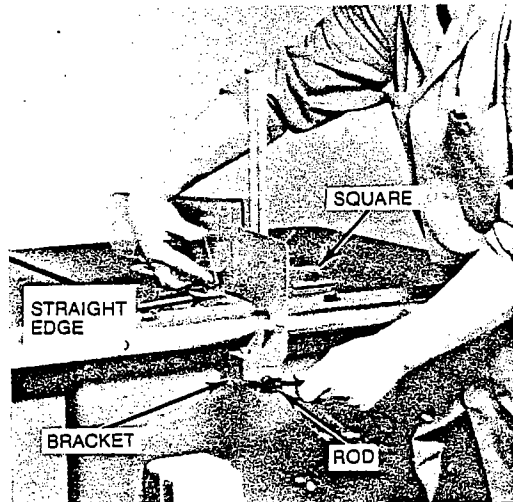

FIGURE 7
7. Assemble lower rear bracket (Figure 7) to rod.
13. Using straight edge and square (Figure 7), align splitter with blade and table. To do so, rotate rod and rotating bracket until splitter aligns with blade and square aligns with table.